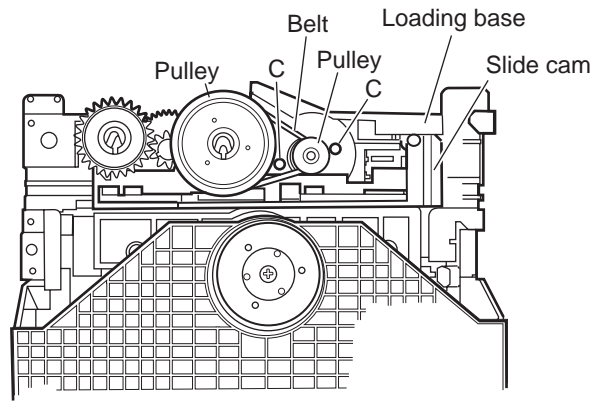
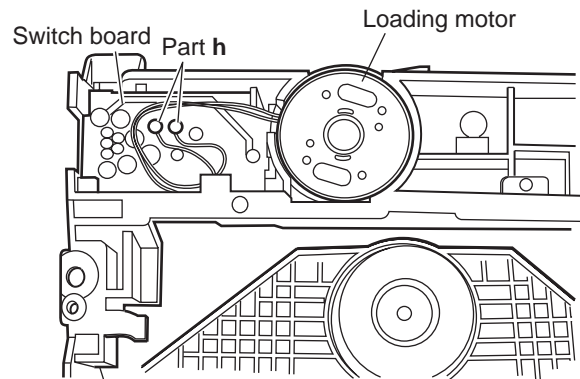

Fig.3-2k
Fig.3-2l
3.2.4 Removing the loading motor (See Figure 3-2k and Figure 3-2l)